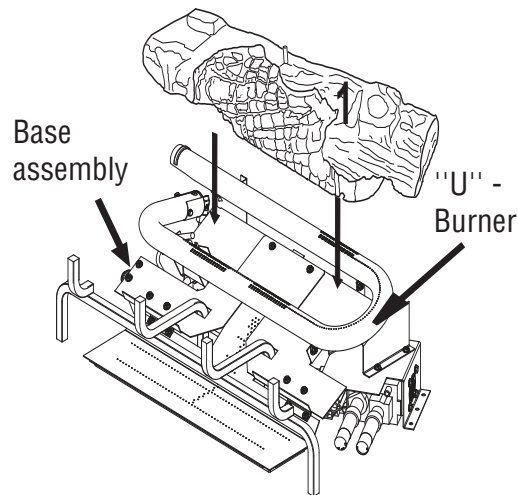

Figure 37 - Installing Log # 1
1. Place the rear log (#1) on base assembly as shown in **Figure 37**. Log will fit over right end of burner and rest in middle of U-burner.